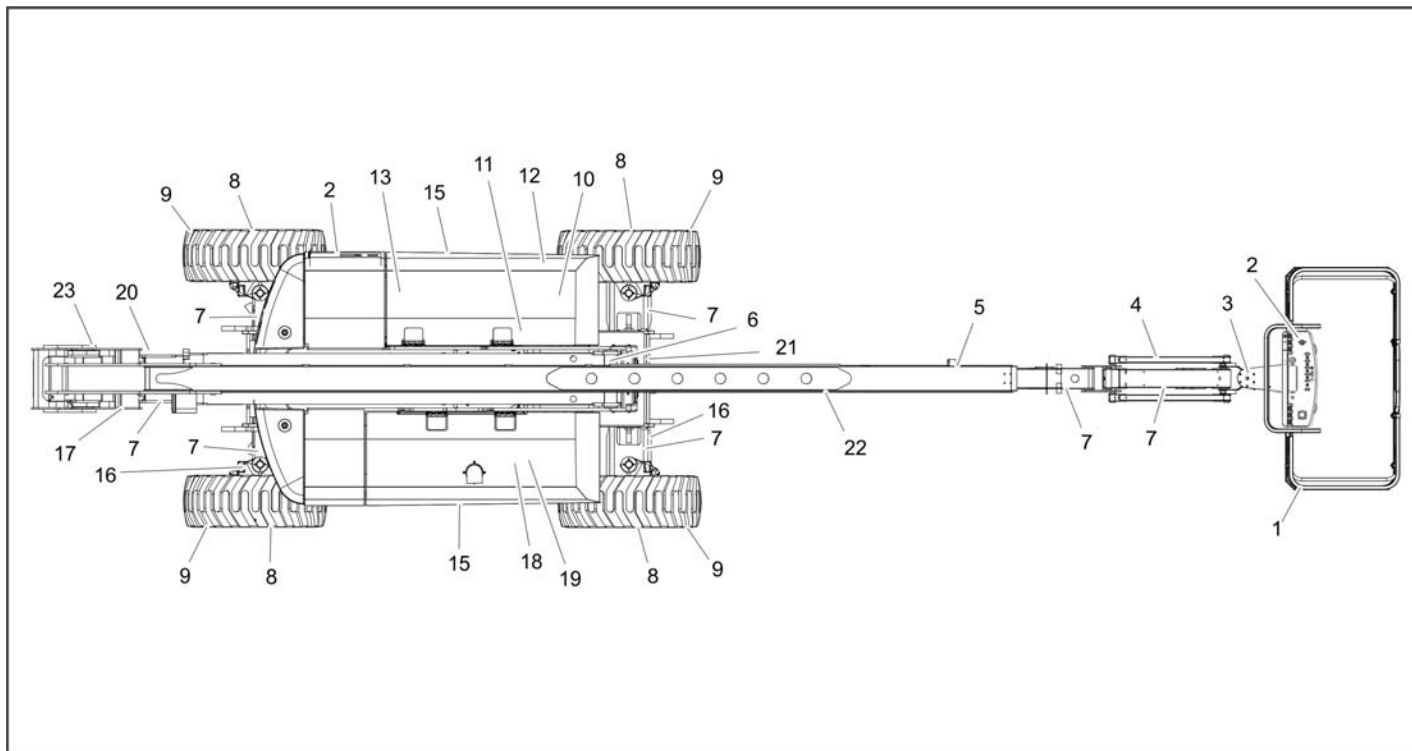

Figure 2-2. Daily Walk-Around Inspection (Sheet 1 of 3)
5. **“Walk-Around” Inspection** – Refer to Figure 2-2. and Figure 2-3.